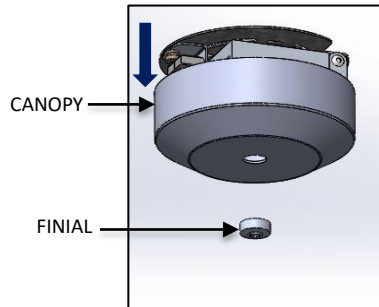

FIG. 9 – CANOPY DIS-ASSEMBLY
1. Loosen the CANOPY FINIAL and remove CANOPY. Be careful not to scratch finish as shown in FIG. 9.